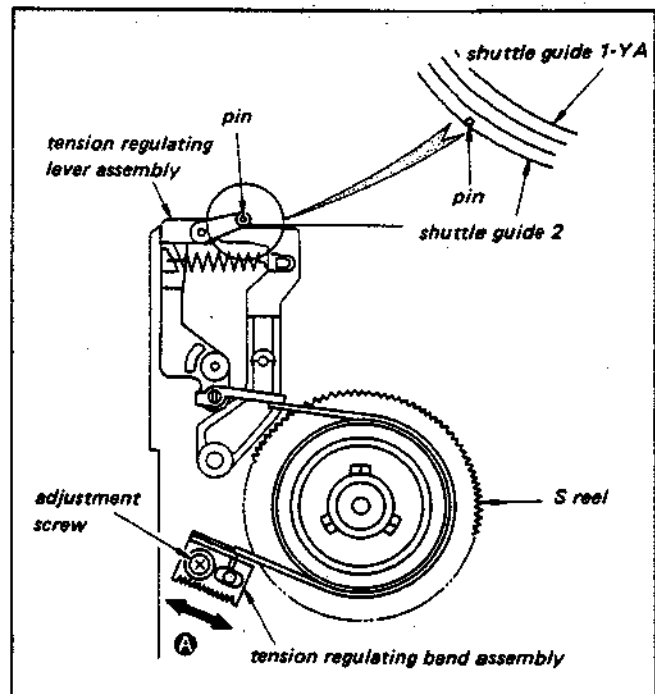

Fig. 3-28 Adjustment of the position of the tension regulating lever
- 2) Loosen the adjustment spring until the tape guide pin of the tension regulating lever assembly is positioned to the outside of the outer circumference of shuttle guide 2, as shown in Fig. 3-28. Then adjust by moving the tension regulating band assembly in the direction of arrow A.